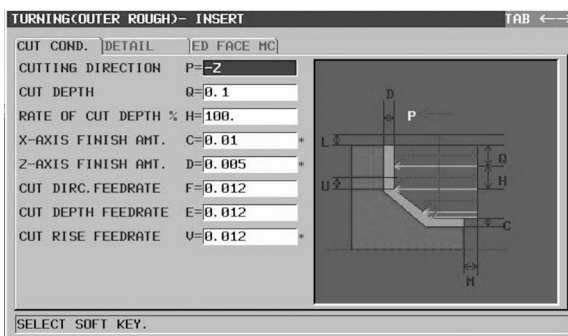

Figure 7-25 TURNING (OUTER ROUGH) CUT CONDITIONS
- a. Complete the required data for the CUT COND. Tab, as shown in Figure 7-25 where the values are based on the material type.